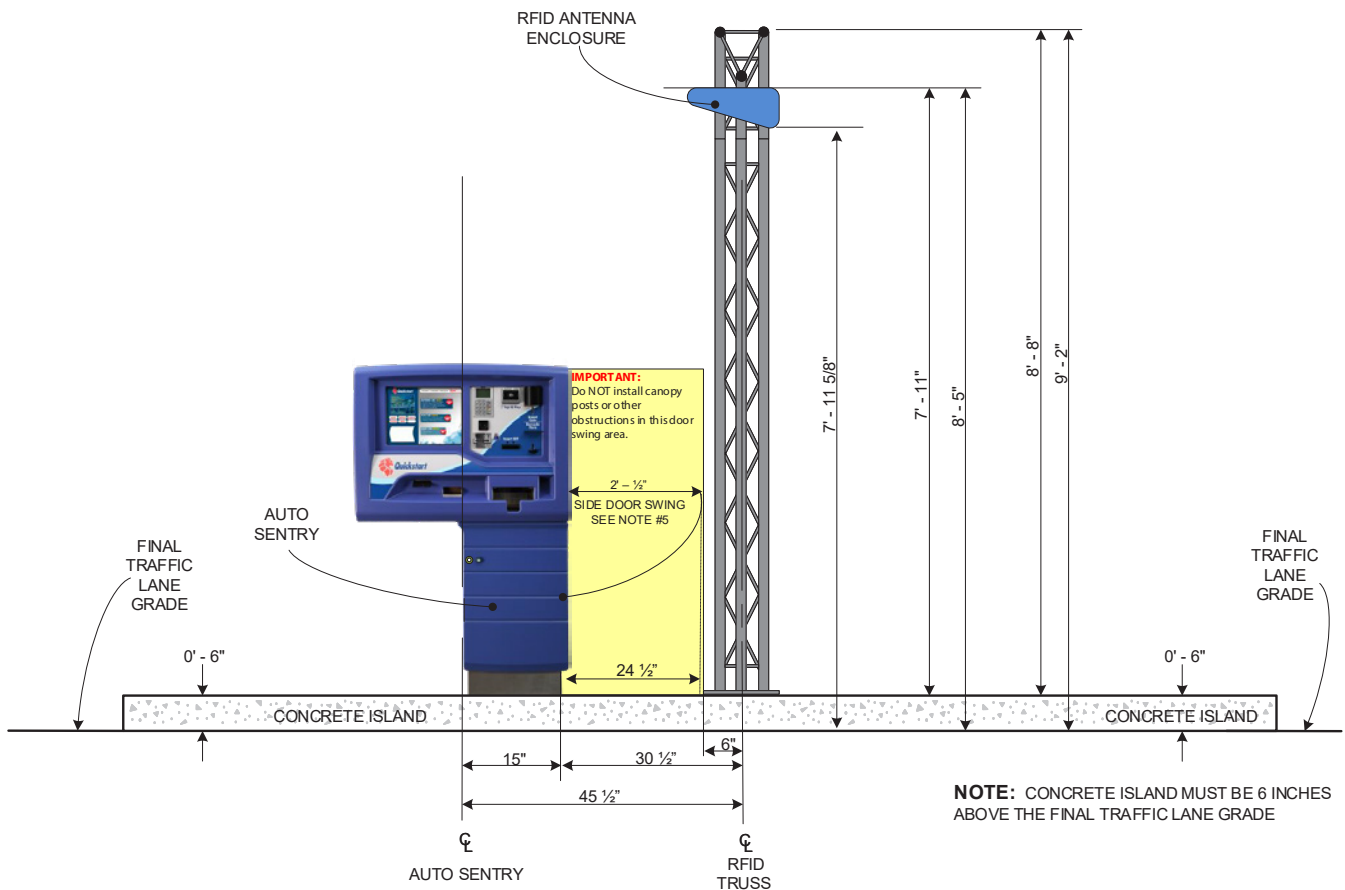
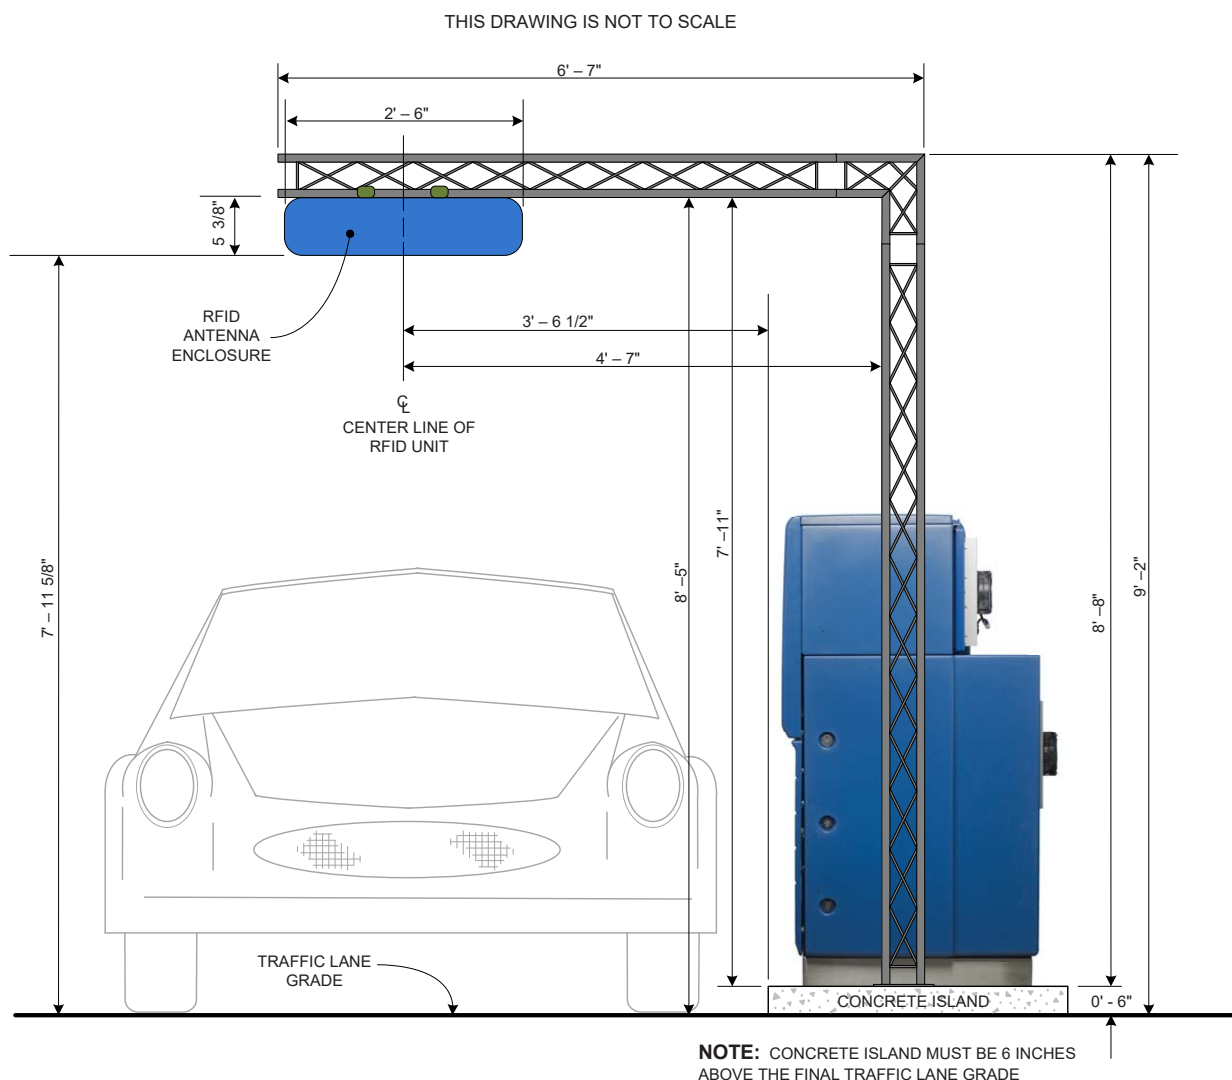

Figure 9. Truss Base Location Side View
Figure 12. RFID Enclosure Mounting on Truss
- Mount truss base 30 1/2" from the center of the Auto Sentry flex to the center of the truss. See Figure 9.
2. Mount the center of the enclosure at 3'6-1/2" from the edge of the curb. See Figure 12.
- To ensure the proper angle for the antenna, the enclosure should be mounted so the top of the enclosure is level. The antenna is angled inside of the enclosure. The enclosure will appear to be facing down. See Figure 9, Figure 11, and Figure 12.